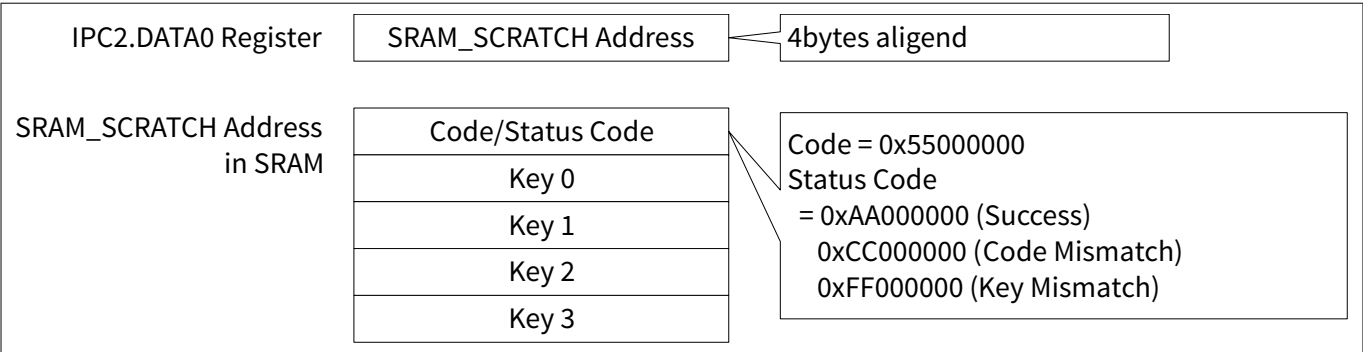

Figure 14 Parameters structure
- The parameters (including 128-bits key) input from the Sys_DAP is passed via IPC2. Figure 14 shows the parameters structure.